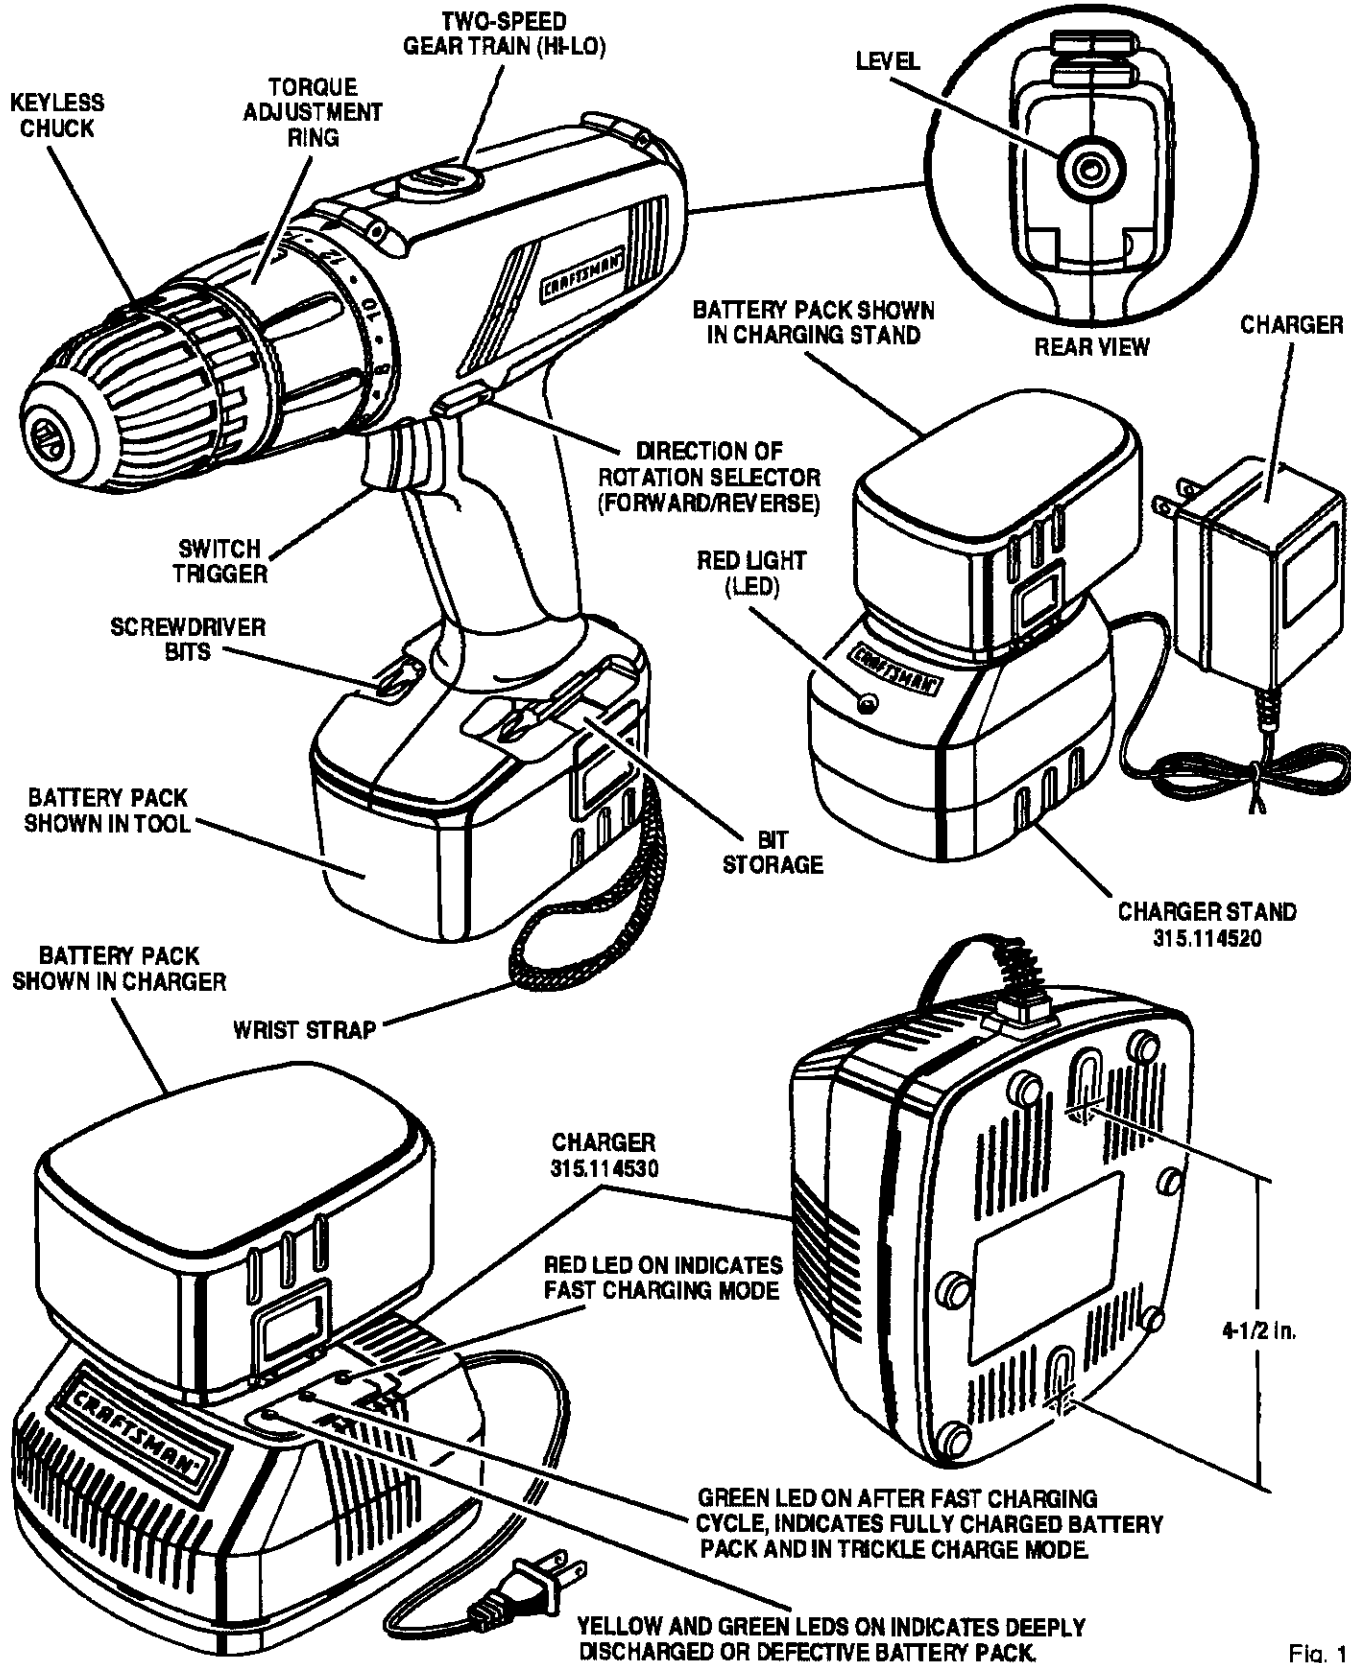

Fig. 1
See Figure 1.
*See Figure 1.*
- Place battery pack in charger aligning raised rib on battery pack with groove in charger. See Figure 1.